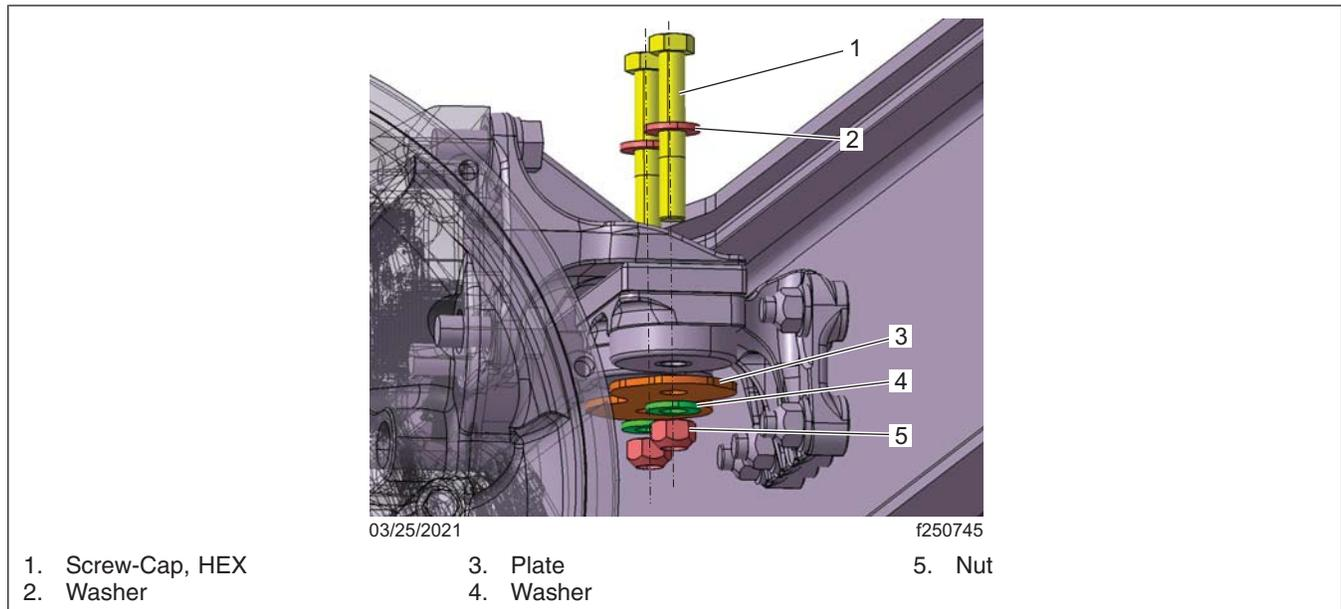

Fig. 13, Nodal Rear Engine Supports
5. Lower the back of the engine and install the isolator bolts. Torque to 203 lbf-ft (275 N-m), alternating between the front and rear bolts, to prevent binding. See Fig. 13.